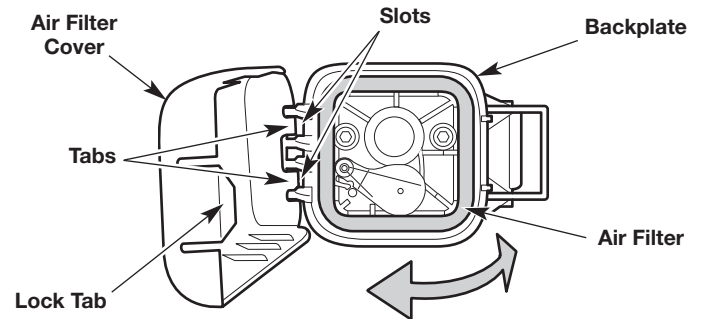

Fig. 17
1. Open the air filter cover: press in the lock tab and swing the air filter cover to the left (Fig. 17).
2. Remove the air filter (Fig. 17).
6. Reinstall the air filter (Fig. 17).
7. Close the air filter cover: insert the tabs on the air filter cover into the slots on the backplate. Swing the air filter cover to the right and press it closed until the lock tab snaps into place (Fig. 17).